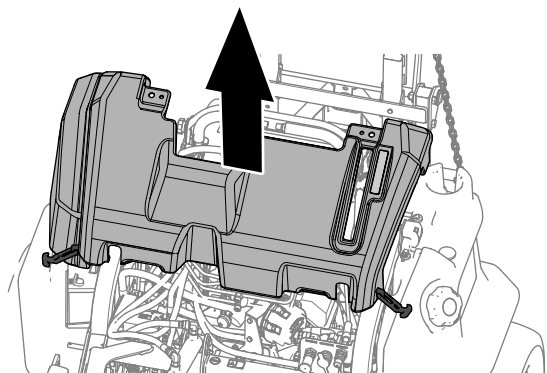

Figure 64
2. Lift the hood from the machine (Figure 64).